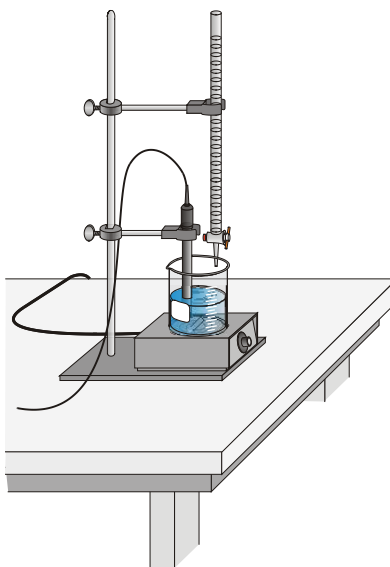

Figure 1
As 0.0200 M  $\text{H}_2\text{SO}_4$  is slowly added to  $\text{Ba}(\text{OH})_2$  of unknown concentration, changes in the conductivity of the solution will be monitored using a Conductivity Probe. When the probe is placed in a solution that contains ions, and thus has the ability to conduct electricity, an electrical circuit is completed across the electrodes that are located on either side of the hole near the bottom of the probe body (see Figure 1). This results in a conductivity value that can be read by the interface. The unit of conductivity used in this experiment is the microsiemens, or  $\mu\text{S}/\text{cm}$ .
2. Measure out approximately 60 mL of 0.020 M  $\text{H}_2\text{SO}_4$  into a 250 mL beaker. Record the precise  $\text{H}_2\text{SO}_4$  concentration in your data table. **CAUTION:**  $\text{H}_2\text{SO}_4$  is a strong acid, and should be handled with care. Obtain a 50 mL buret and rinse the buret with a few mL of the  $\text{H}_2\text{SO}_4$  solution. Use a utility clamp to attach the buret to the ring stand as shown in Figure 1. Fill the buret a little above the 0.00 mL level of the buret. Drain a small amount of  $\text{H}_2\text{SO}_4$  solution so it fills the buret tip and leaves the  $\text{H}_2\text{SO}_4$  at the 0.00 mL level of the buret. Dispose of the waste solution in this step as directed by your teacher.
6. Arrange the buret, Conductivity Probe, beaker containing  $\text{Ba}(\text{OH})_2$ , and stirring bar as shown in Figure 1. The Conductivity Probe should extend down into the  $\text{Ba}(\text{OH})_2$  solution to just above the stirring bar, so the hole in the probe end is completely submerged.